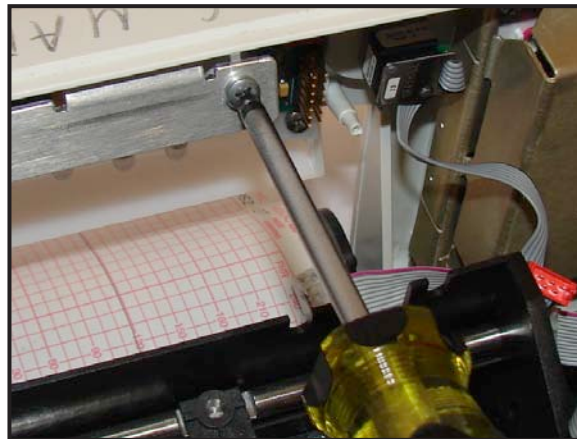

Figure 6-24
- c. Use a Phillips screw driver to remove the two screws that attach the keypad bracket to the front bezel (See Figure 6-24) and remove the keypad bracket.